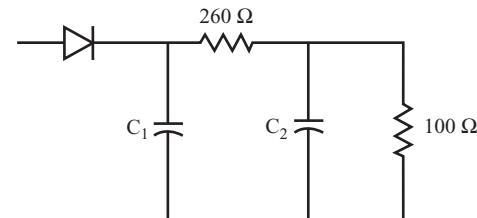

FIGURE 11.42
- 22** Figure 11.42 shows the half-wave rectifier circuit with the 260-ohm value you calculated for R_1 .
- A.** How long should the discharge time constant be for the circuit in Figure 11.42?